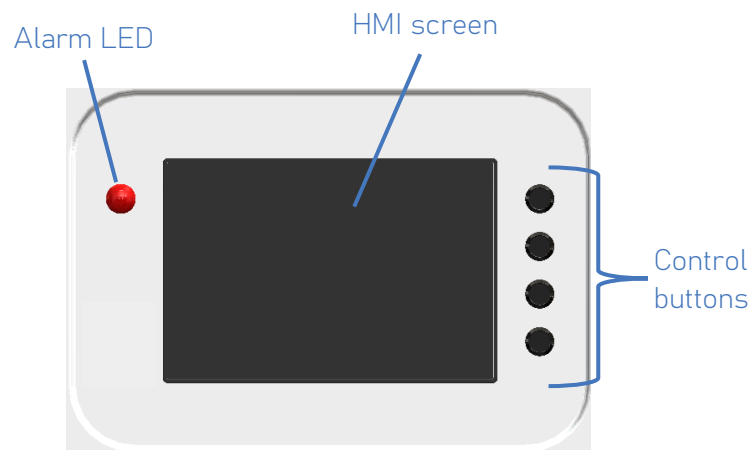

Figure 9 - Control unit – Human/Machine Interface (HMI)
Figure 9 is a touch screen that allows the user to:
1. Press any control button (**Figure 9**);